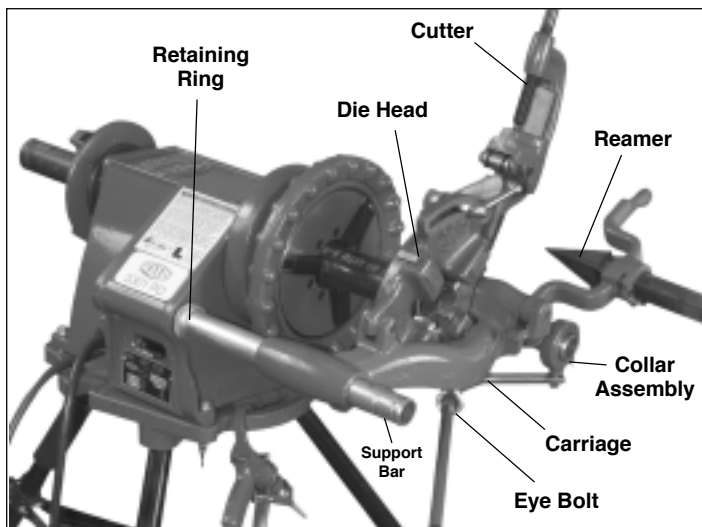

Figure 7 - 5301PD Power Drive with accessories.
1. Pull two support bars on power drive forward (Figure 7).